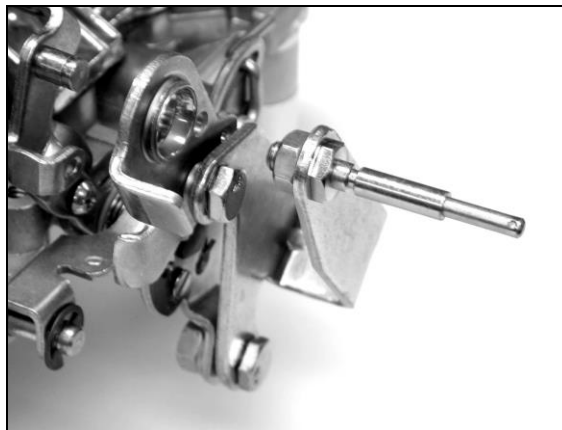

Figure 1—Chrysler applications
1. If you are replacing an existing Holley carburetor, you may need to purchase and install a throttle lever extension (Holley P/N 20-7) on the carburetor. Remove the throttle stud and nut from the original carburetor. You can purchase a new stud from your Holley dealer (Holley P/N 20-67). Install the stud in the throttle extension lever (Figure 1).